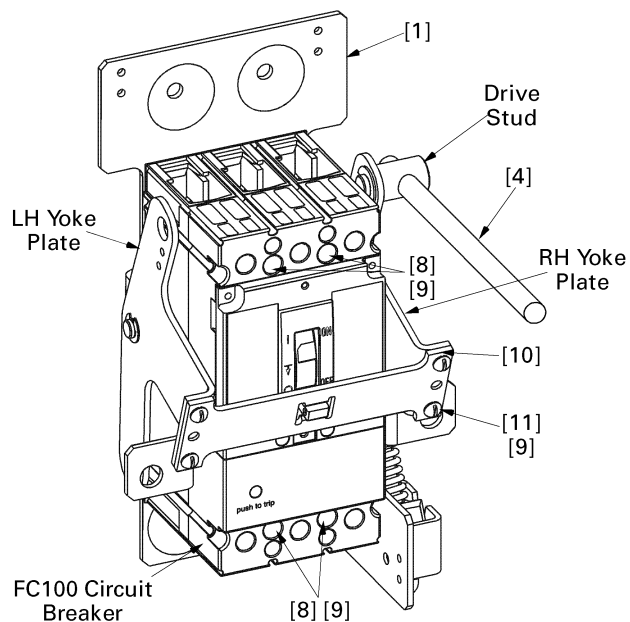

Figure 7. Circuit breaker installed on the operating mechanism.
This procedure is illustrated in Figure 7.
3. Install the circuit breaker on the operating mechanism by inserting the four #8-32 x 27/8" screws [8] and lock washers [9] into the mounting holes in the breaker and into the corresponding tapped holes in the mechanism, as illustrated in Figure 7.